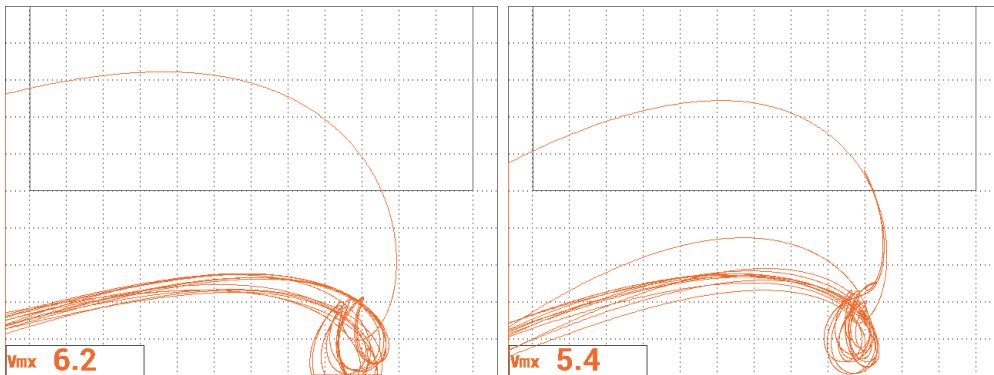

Figure 5-133 The scan results for both fastener rows
36. Place the probe on position 1, and then perform a final scan of both fastener rows (see Figure 5-133 on page 220).